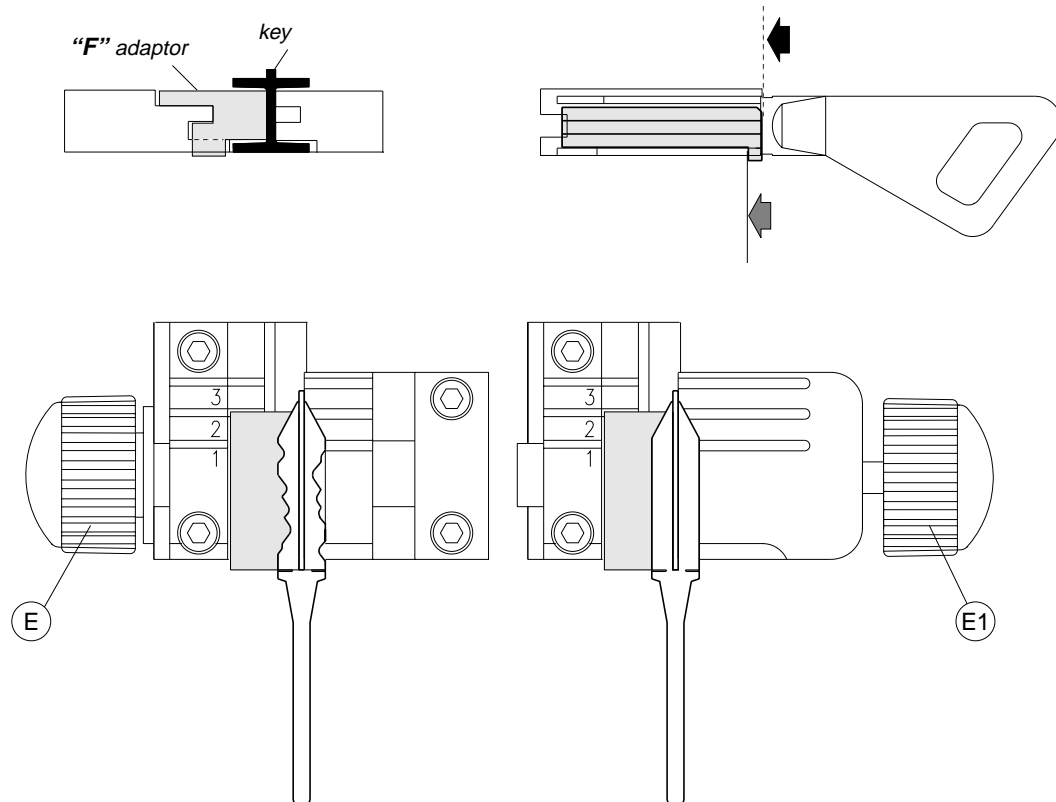

Fig. 23
- 1) open the clamps slightly by loosening knobs (E) and (E1) (fig. 23).
- 4) secure the adapters and keys by tightening knobs (E) and (E1).